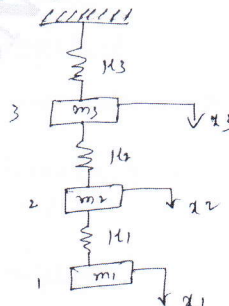

Fig.Q.10(b)
b. Using Holzer method, find the natural frequency of the system shown in Fig.Q.10(b). Assume $m_1 = m_2 = m_3 = 1\text{kg}$, $k_1 = k_2 = k_3 = 1\text{N/m}$. (14 Marks)